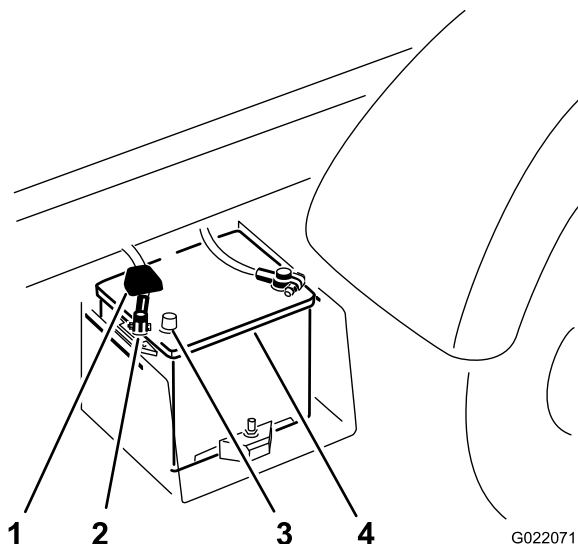

Figure 11
- C. Remove the terminal of the positive battery cable from the battery post (Figure 11).
- A. Connect the positive battery cable to the battery (Figure 11).